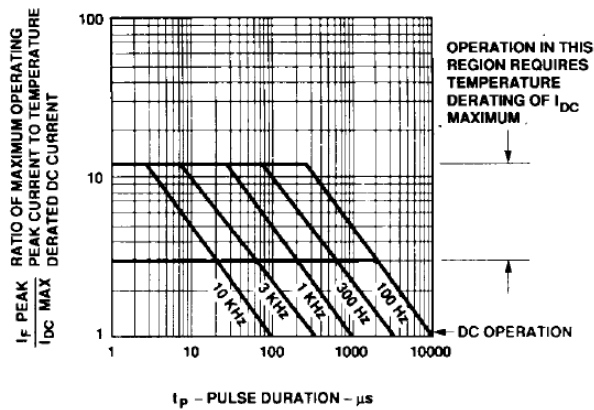

Figure 9. Maximum Tolerable Peak Current vs. Pulse Duration – Green.
- See Figure 9 to establish pulsed conditions.